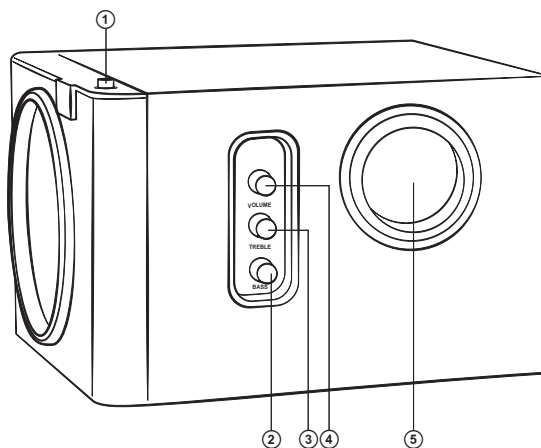
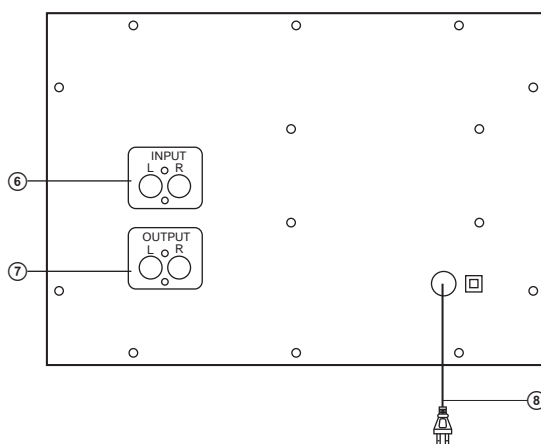

Fig. 1. Subwoofer side panel
Fig. 2. Subwoofer rear panel
- Connect acoustic cables built into speakers into OUTPUT ⑦ of subwoofer rear panel (Fig. 2): left speaker to white color output L, right speaker to red color output R.
- Insert plug of power cord ⑧ on the rear panel of subwoofer into the socket (see Fig. 2).
- Adjust master volume level to its minimum by turning VOLUME control knob ④ counterclockwise until it stops.
- Shift POWER switch ① (see Fig. 1).
- Switch on the audio source and adjust master volume level by turning VOLUME control knob ④ on the side panel of subwoofer. While turning the knob clockwise, volume level increases, but while turning it counterclockwise, it reduces.
- Adjust subwoofer volume level and tremble control by turning BASS ② and TREBLE ③ control knobs accordingly. While turning the knob clockwise, volume level increases, but while turning it counterclockwise, it reduces.